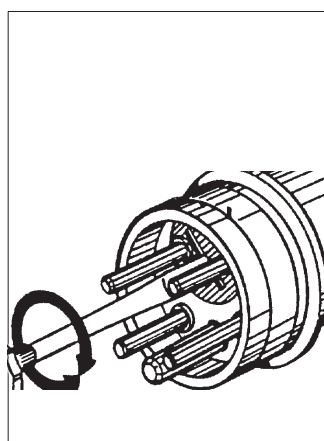

Fig. C.3
- Connect the power cable to the unit using the CEE connector. The cable-securing sleeve (154.1) prevents any excess traction on the connector. It is secured to the snap hook (154) attached to the lower stirrup (104.1). For heights over 100 m, check permissible load of the cable.
- Check correct operation of the TIRAK hoist and, in particular, that the motor turns in the correct direction. By pressing the «DOWN» button, the wire rope should come out of the hoist through the top. If not, have the installation checked by an electrician. If nothing operates, use a screwdriver to invert two phases in the CEE plug of the hoist (Fig. C.3).